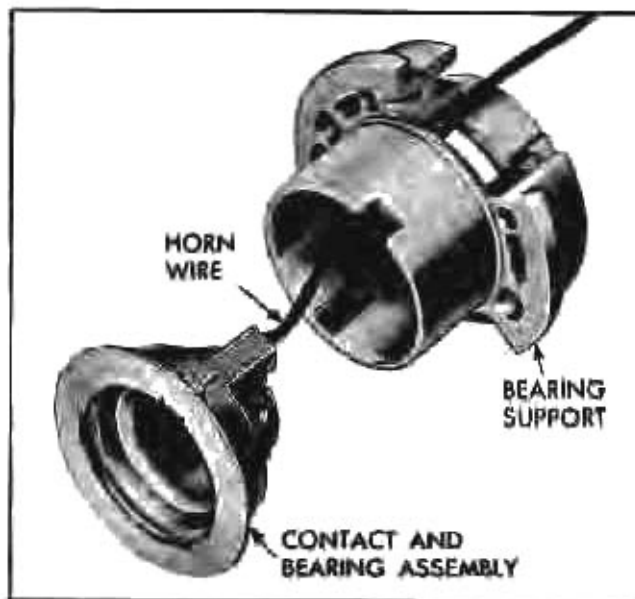

Fig. 11-130 Horn Contact and Bearing Support
1. Install horn wire and contact assembly in end of bearing support (Fig. 11-130), snaking wire through outer slots of bearing support lock plate and retainer plate and between steering column housing and shifter tube.